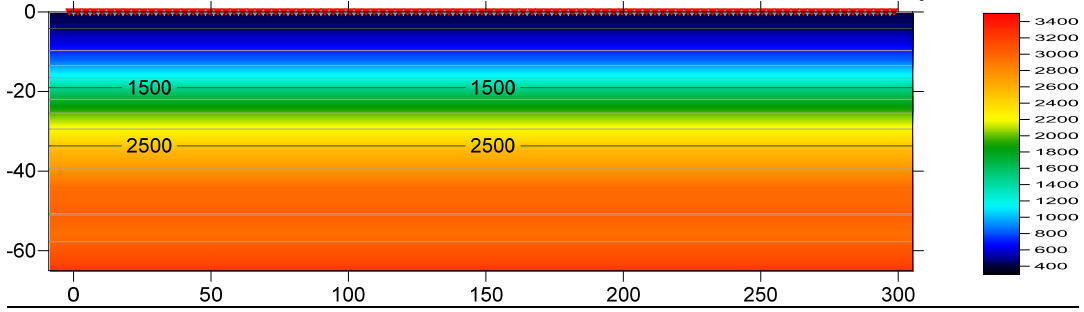
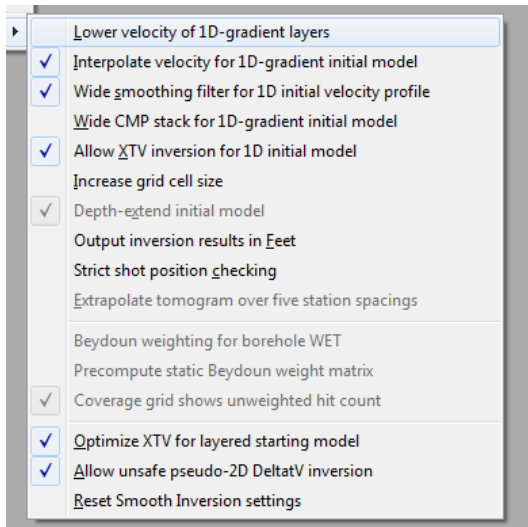

Fig. 1 : 1D-gradient starting model, both Smooth inversion flags for XTV inversion checked (Fig. 13), RMS error 4.3%
Fig. 13 : Smooth invert|Smooth inversion Settings
- set *Smooth invert|Smooth inversion Settings* as in Fig. 13 (default settings for version 3.25)
- select *Smooth invert|WET with 1D-gradient initial model* to determine the starting model (Fig. 1) with Rayfract® 3.25 Smooth XTV inversion, with XTV inversion enabled (Fig. 13)